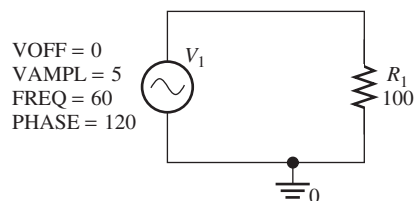

FIGURE 6.60 PSpice schematic solution for Example 6.3.
6. The PSpice schematic is shown in Figure 6.60.